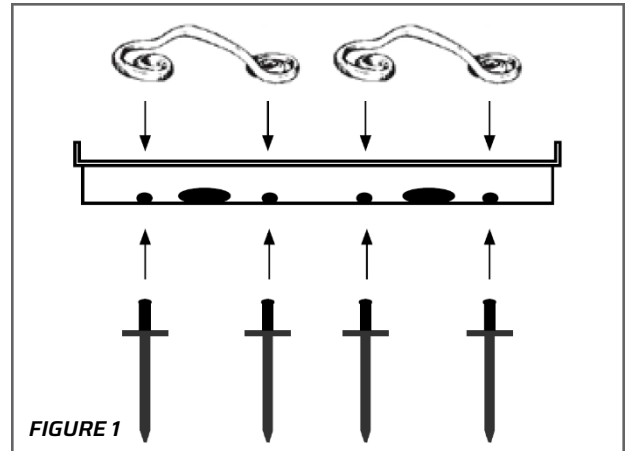

FIGURE 1
Secure Steel Springs (C) to Box Mount (A) using Aluminum Rivets (D). See Figure 1.